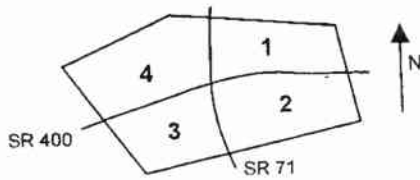

FIGURE 2
1. The first digit of a quadrant route is based on which quadrant of the county the route is located, as shown in the following diagram (Figure 2).